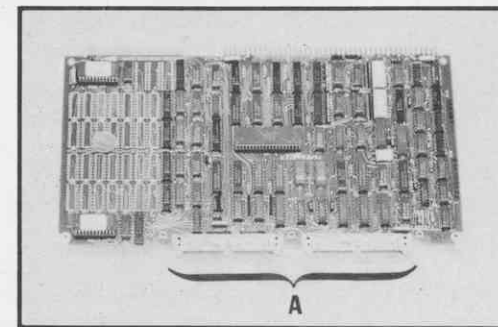

Figure 21 1/2" Tape Controller
3.5 Figure 21 shows a 1/2" tape controller.
If your disk controller is an Interphase 2180 or Xylogics 450 AND your system has a 1/2" tape controller as shown in Figure 21, follow this sequence:
4.2 If your system has a 1/2" tape controller (see Figure 21), install the Xylogics 450 board in slot 6 of the card cage. Install the 1/2" tape controller in slot 5.